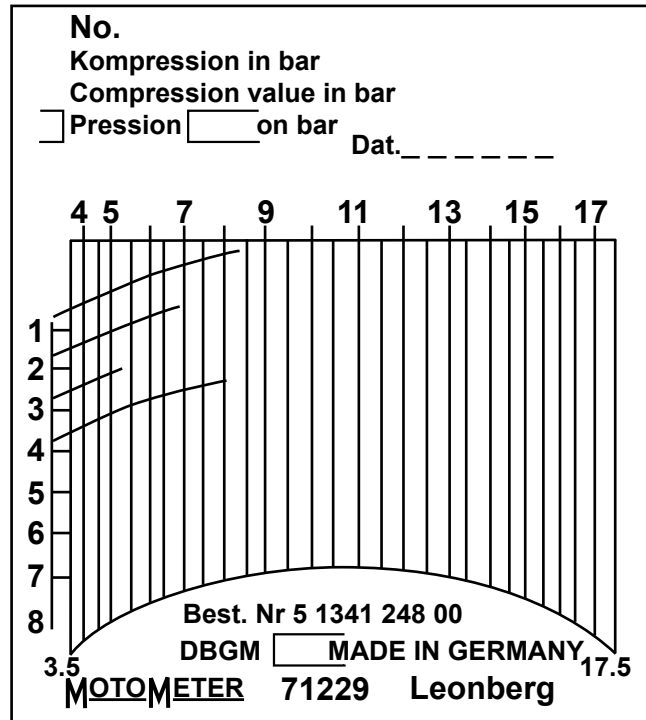

Fig. 13
- 16 Fig. 13 shows the results of a dry cylinder pressure compression test on a four-cylinder spark ignition engine. With reference to the vehicle manufacturer's specifications, the normal pressure should be between 125 to 175 psi.